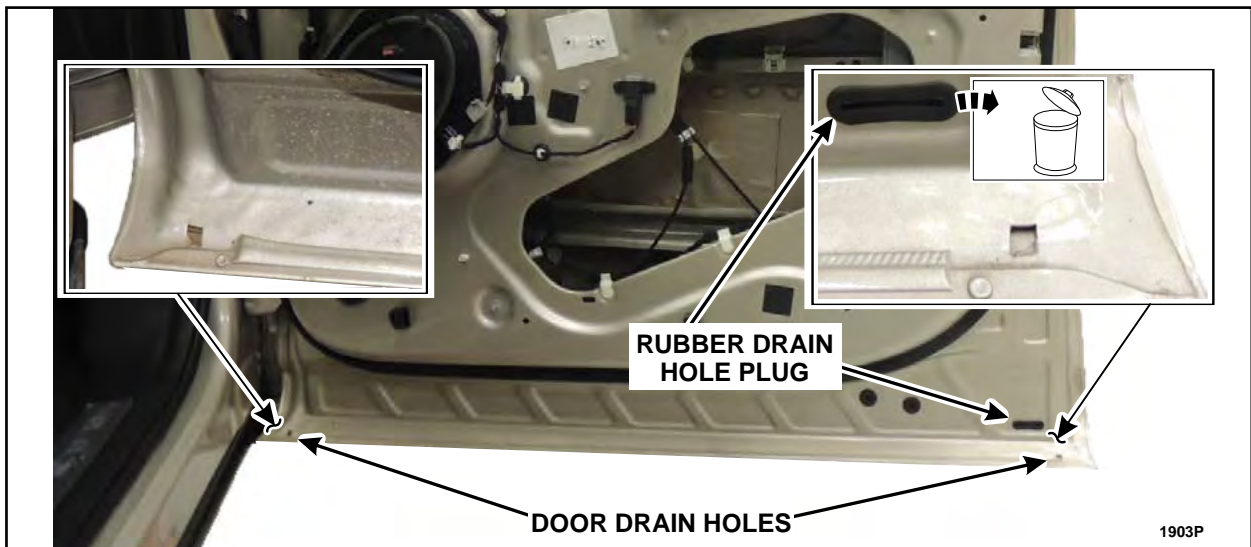

FIGURE 60
1. If water shield kit installation was not necessary, remove and discard the rubber drain plug and clean any obstructions, debris, foreign material and residual water from all of the door drain holes using compressed air and a plastic trim tool. See Figure 60.